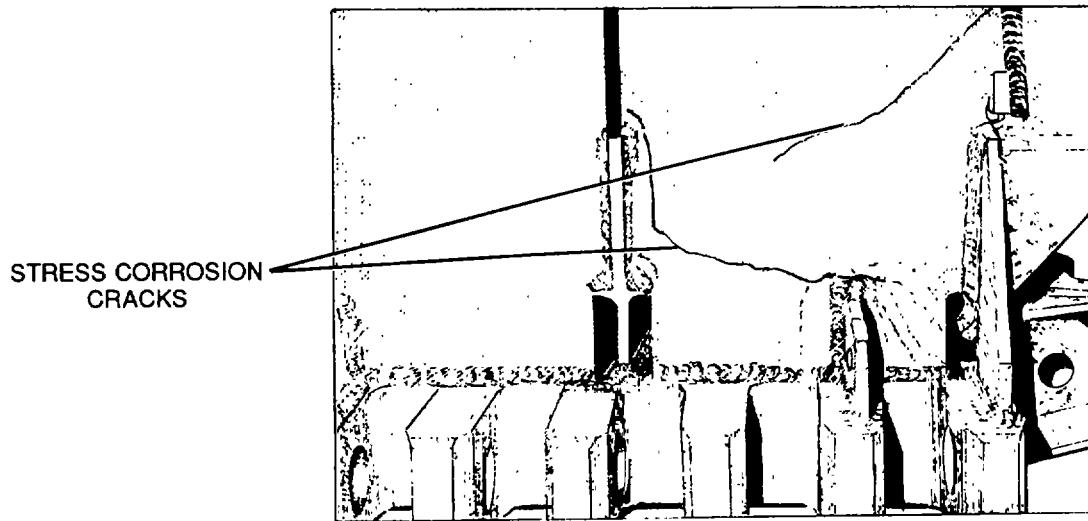

FIGURE 2-1 Stress corrosion cracking
(1) Stress Corrosion Cracks. This form of corrosion, inter-crystalline in nature, occurs under the influence of static stress and may occur within the heat affected zones of welded components. It leads to mechanical failure generally in the form of cracking (fig. 2-1).